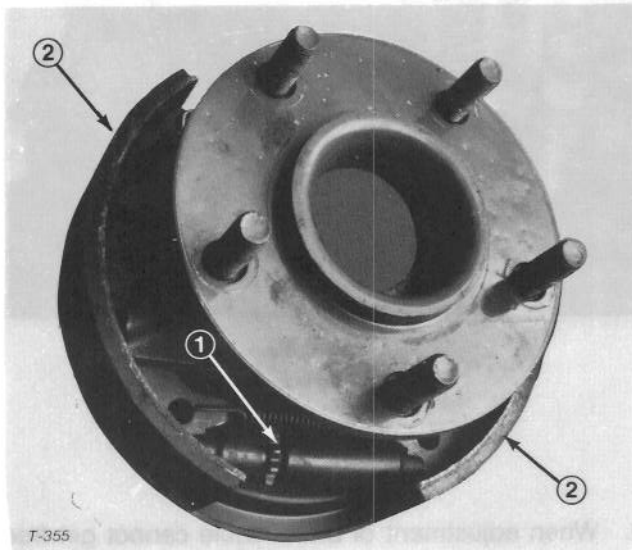

Figure 61
6. Using a brake adjusting tool or screwdriver, rotate star nut (Fig. 60) down until brake drum (Fig. 61) locks because of outward pressure of brake shoes (Fig. 61).